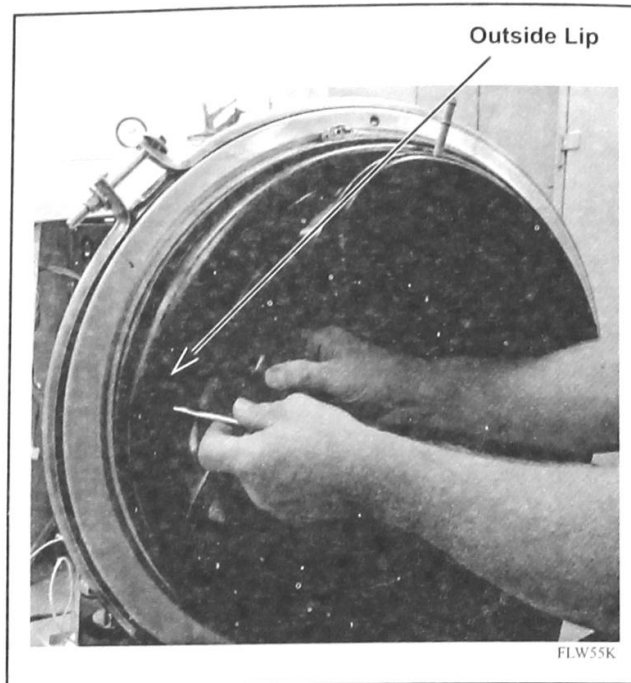
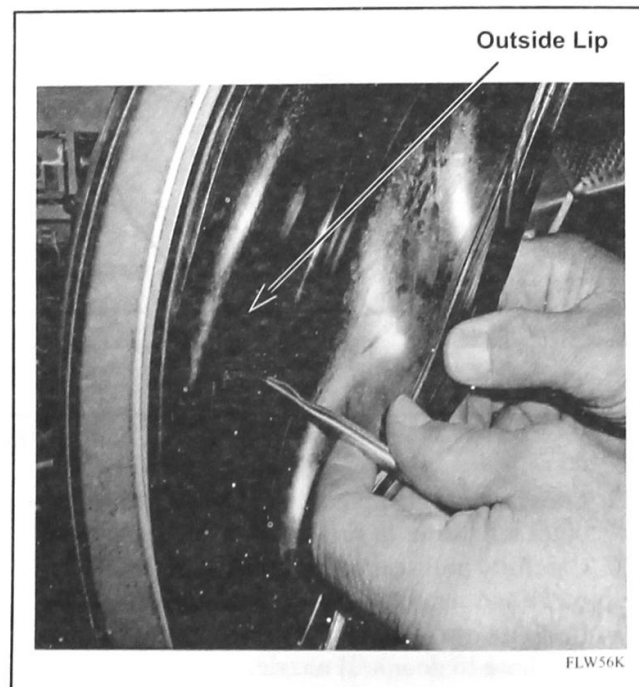

Figure 4
Figure 5
- a. Using a brush applicator, apply about 80% of lubricant within outside lip of seal from 9 to 3 o'clock position. Refer to *Figure 4* and *Figure 5*.